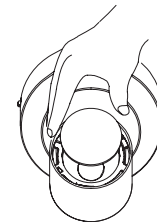

Fig 7
Step 3: Replace existing lens with new lens. (See Fig 7)